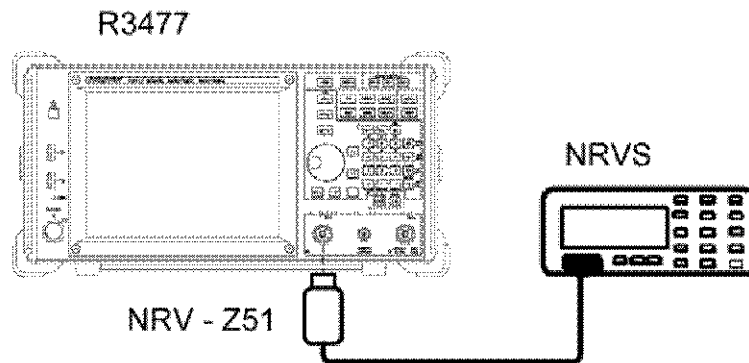

Figure 2-23 TG Vernier Accuracy Test
6. Connect the instruments as shown in Figure 2-23.